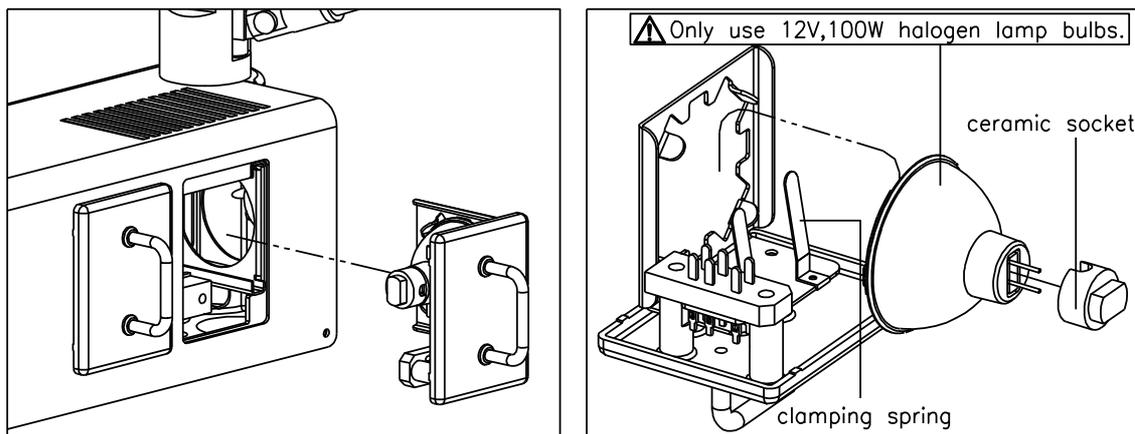

Fig. 4
- (2) After the operation, replace the burnt bulb immediately for next operation. While replacing, pull out ceramic socket and take the bulb out of two clamping springs. Then replace a new bulb in a reverse way (Fig. 4).